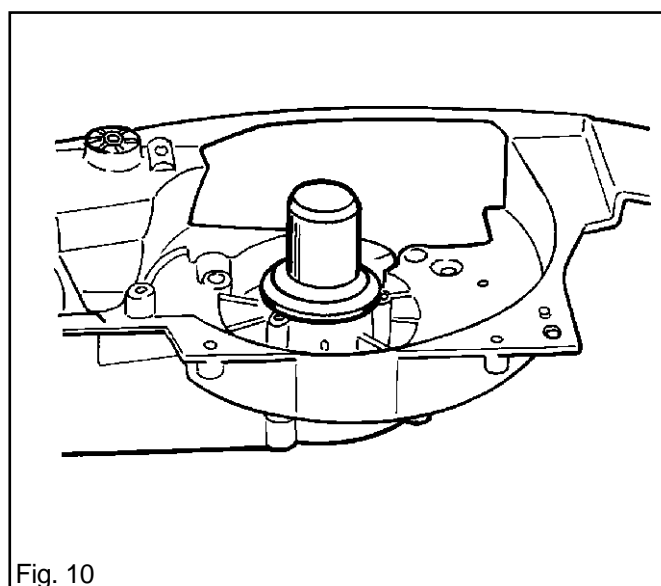

Fig. 10
2. If replacement crankcase seals are to be fitted, grease the seal surfaces and tap them home using tools 502 52 20-01 and 502 52 21-01. See fig. 10.